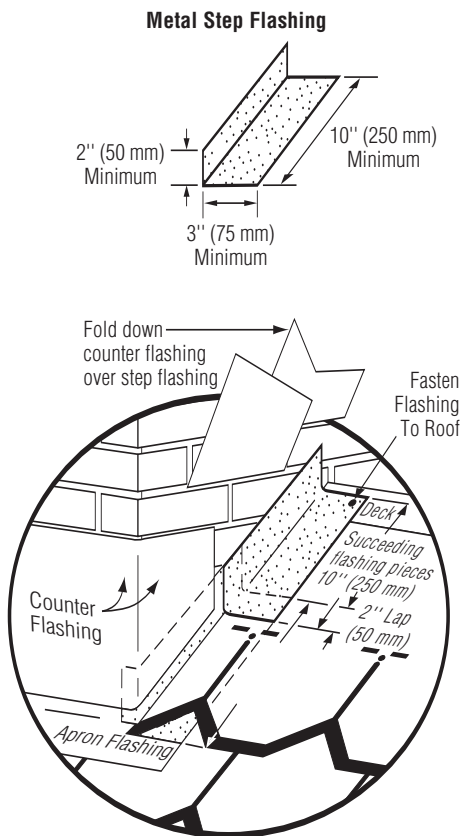

Figure 16-14: Metal step flashing for Carriage House.
**INSTALLING STEP FLASHING:** Use 10" by 5" corrosion-resistant metal such as copper. For the first course of Carriage House only, use a 12" by 5" piece of metal flashing (Figure 16-14).